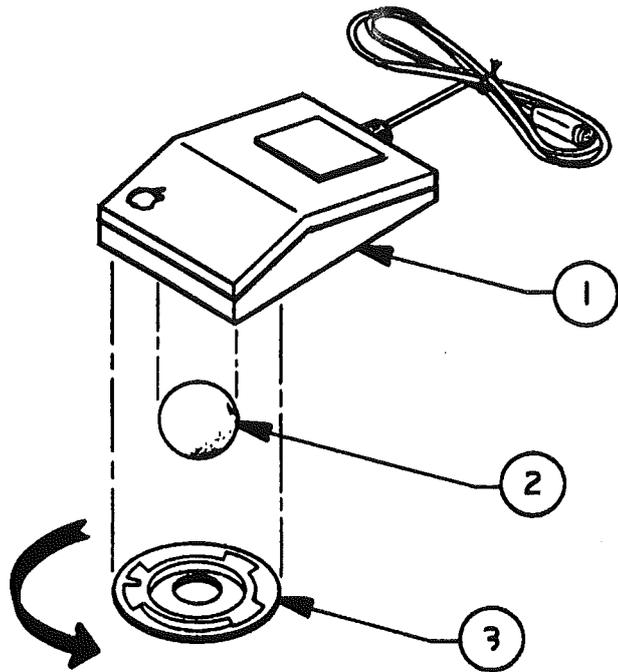

FIGURE 7
- IPL.13 Mouse (Figure 7)
□ **MOUSE (Figure 7)**